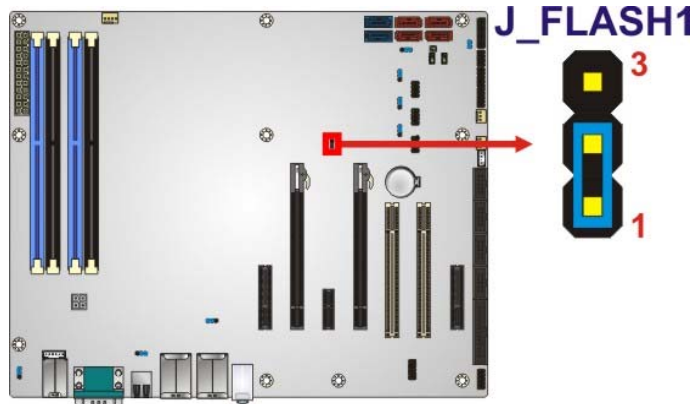

Figure 4-9: Flash Descriptor Security Override Jumper Location
- Jumper Location:** See Figure 4-9